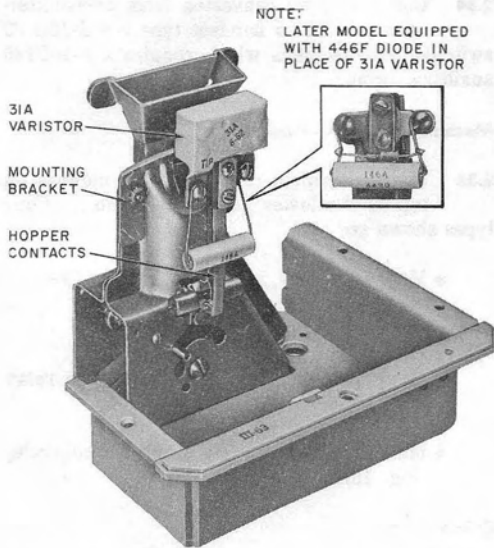

Fig. 14—212G Dial Postpay (CDO) Mechanism Unit
- Revise Fig. 14 and 24
- Dial postpay, no coin relay (Fig. 14)